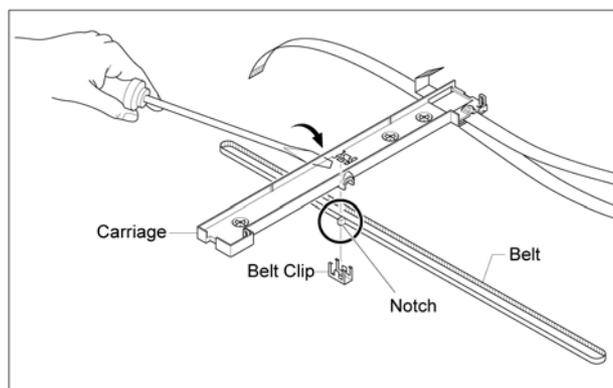

Figure 11
13. Remove the Belt Clip with a screwdriver to release the Scanner Belt, Figure 11.